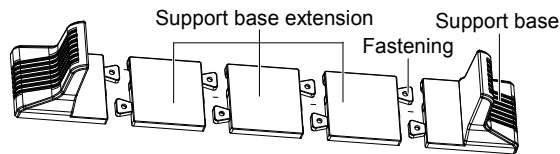

Figure 2-11 Installing the support base with support base extension
3) Align the installation holes of the guide rail with the square holes of the rack, fix the guide rail on the rack with the guide rail screws (eight pieces), each left guide rail and right guide rail need four guide rail screws, as shown in Figure 2-11.